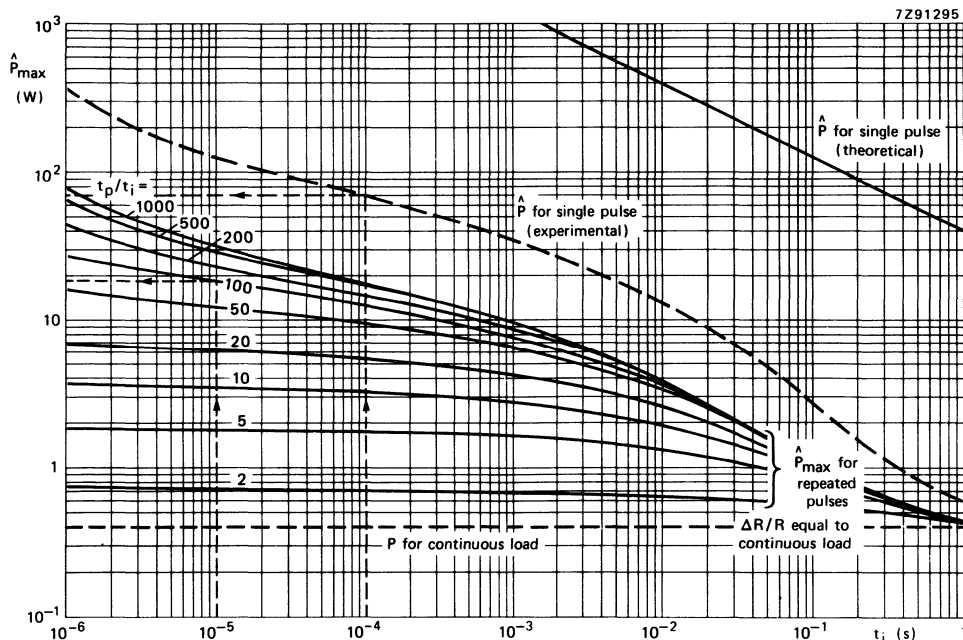
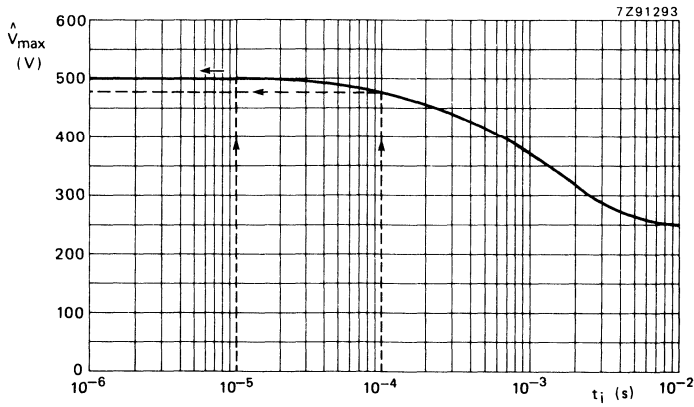

Fig. 8 Max. permissible peak pulse power (\hat{P}_{max}) versus pulse duration (t_i) for a typical resistor.
Fig. 9 Max. permissible peak pulse voltage (\hat{V}_{max}) versus pulse duration (t_i) for a typical resistor.
Knowing the thermal characteristics of a resistor, it is possible to calculate the load due to a single pulse which will cause a resistor to fail by going open circuit. This theoretical maximum can be expressed in terms of peak pulse power, \hat{P} , and pulse duration, t_i , the straight line in Fig. 8 is a typical example for a film resistor. In practice, however, owing to variations in the resistance film, substrate, or spiralling, resistors fail at loads less than this theoretical maximum; the dashed line in Fig. 8 shows the observed maximum for a resistor under single-pulse loading.
Using a computer program which takes account of all factors affecting resistor behaviour under pulse loads, curves similar to those of Fig. 8 are being produced for all our resistor ranges.
- \hat{p}_{max} = max. permissible peak pulse power (see Fig. 8)
- \hat{V}_{max} = max. permissible peak pulse voltage (Fig. 9)
The graphs of Figs 8 and 9 may be used to determine the maximum pulse loading for a resistor. The calculations assume:
- $\frac{\hat{V}_i^2}{R}$ must be lower than the value of \hat{P}_{max} given by the solid lines of Fig. 8 for the applicable value of t_i and duty cycle t_p/t_i .
- \hat{V}_i must be lower than the value of \hat{V}_{max} given in Fig. 9 for the applicable value of t_i .
- $\frac{\hat{V}_i^2}{R}$ must be lower than the value of \hat{P}_{max} given by the dashed line of Fig. 8 for the applicable of t_i .
Fig. 1 gives $\hat{P}_{\max} = 19\ \text{W}$ and Fig. 9 gives $\hat{V}_{\max} = 500\ \text{V}$. As the operating conditions $\hat{P} = 16\ \text{W}$ and $\hat{V}_i = 40\ \text{V}$ are lower than these limiting values, this resistor can safely be used.
The dashed curve of Fig. 8 shows that at $t_i = 10^{-4}\ \text{s}$, the permissible $\hat{P}_{\max} = 70\ \text{W}$ and Fig. 9 shows a permissible \hat{V}_{\max} of $480\ \text{V}$, so again this resistor may be used.